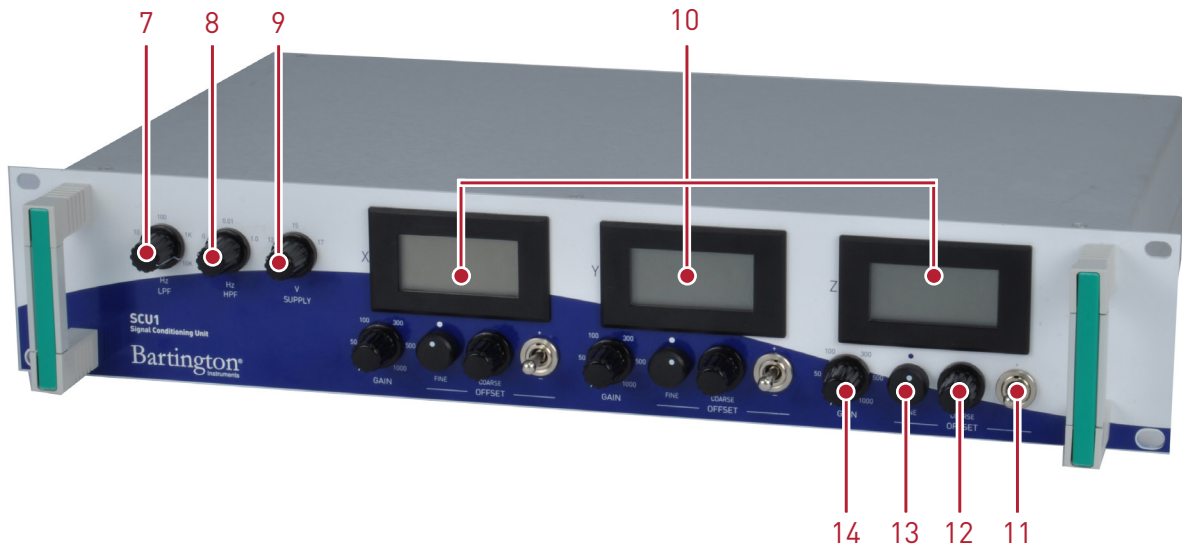

Figure 2. Front panel displays and controls.
Key to Figure 2
Before switching the equipment ON, set the appropriate voltage for your magnetometer, using the front panel control (Figure 2, item 9).